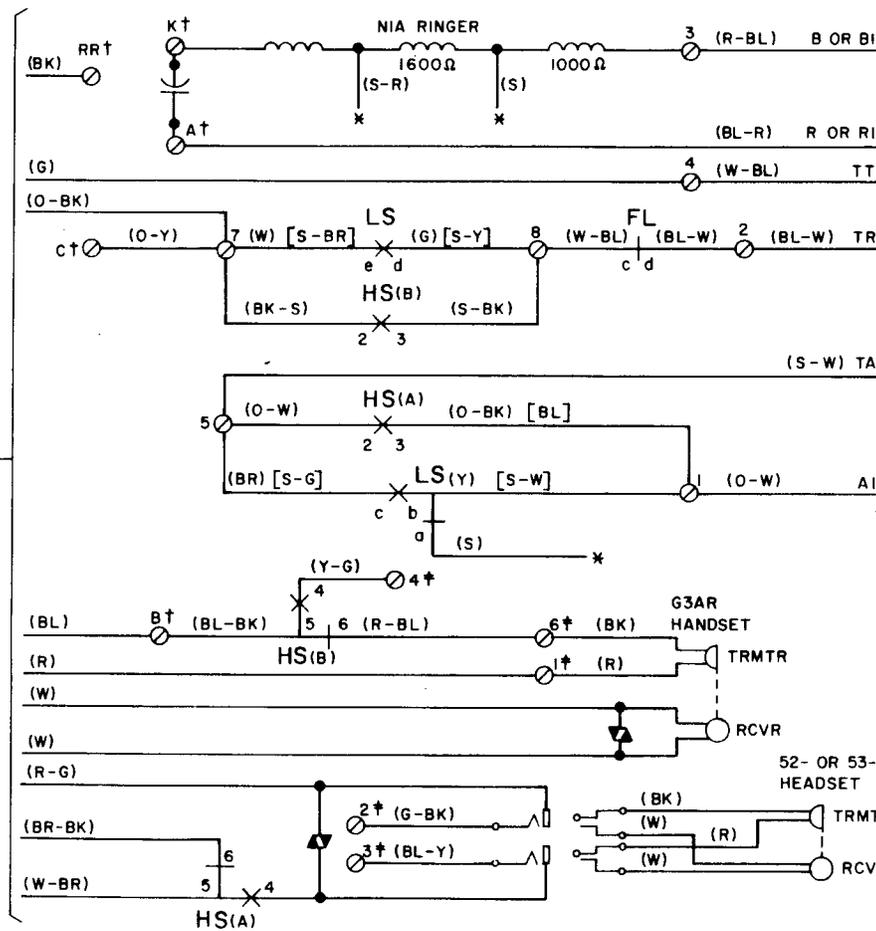

Fig. 1—1638- and 1639-Type Telephone Set, Connections
5. CUTOFF OF THE INTERNAL RINGER CAN BE PROVIDED USING THE 599B OR 657B KEY IN FIRST MODULE. TRANSFER BI LEAD FROM TERMINAL 3 OF TERMINAL BOARD (FIG. 1) TO TERMINAL 6 OF TBI (FIG. 2 OR 3) TRANSFER (R) LEAD FROM TERMINAL 5 OF TBI (FIG. 2 OR 3) TO TERMINAL VACATED BY BI LEAD.